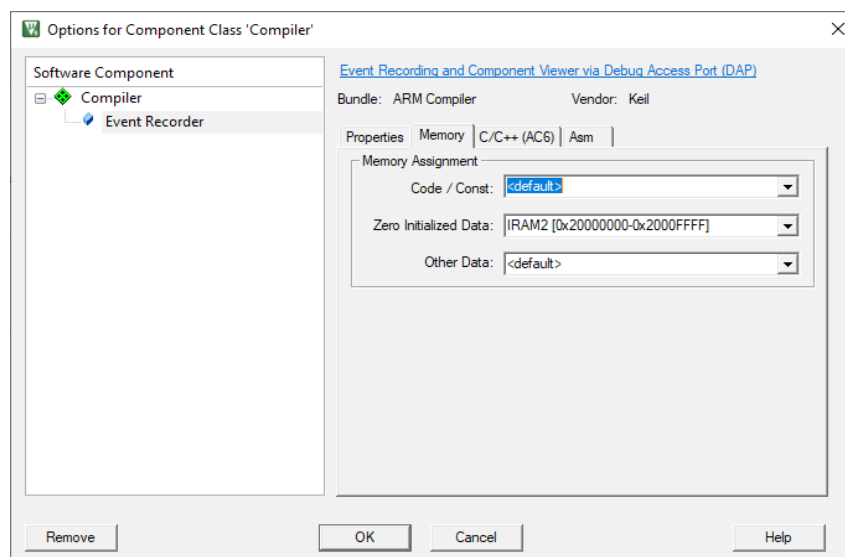

Figure 6 – Assigning Zero Initialized Data to the IROM2 region we specified in step 2
- Next we need to tell the event recorder which bit of memory to use. If we right-click on **EventRecorder.c** and go to the **Memory** tab, we can set the area of zero-initialised data (See Figure 6).